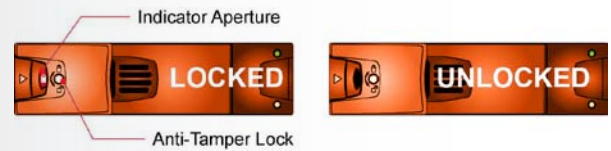

Fig. 40 - Drive Anti-tamper Lock
NOTE: The anti-tamper lock must be disengaged, see Fig. 40.
1. Ensure that the anti-tamper lock is disengaged (see Fig. 40).
4. Cam the carrier home - the camming foot on the base of the carrier will engage into a slot in the enclosure. Continue to push firmly until the handle fully engages. A click should be heard as the latch engages and holds the handle closed (Fig. 40).
5. Carefully insert the anti-tamper lock key provided into the cutout in the handle and rotate the key in a clockwise direction until the red indicator is visible in the aperture beside the key (see Fig. 40).